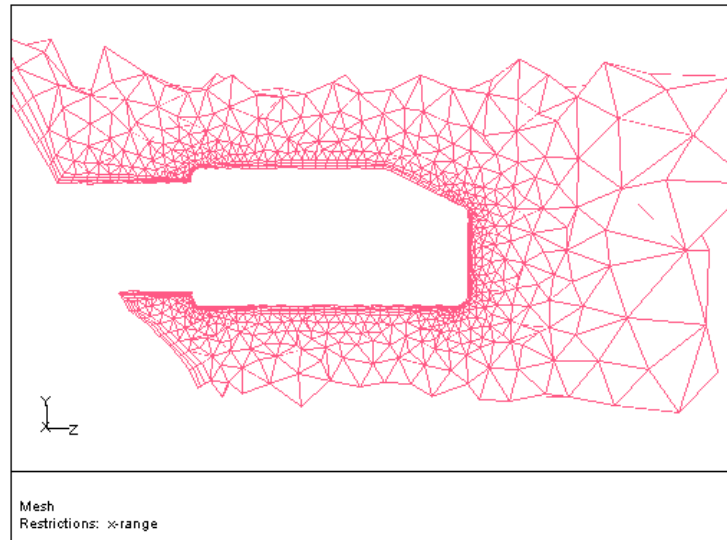

Figure 8.10: Remeshed Cavity
- v. Click Display (Figure 8.10).
In Figure 8.10, you can see the three prism layers generated around the mirror and car. The rest of the domain is filled with tetrahedra.
In Figure 8.10, you can see that the mesh outside the cavity has not been modified. The mesh inside the cavity is connected in a conformal manner with the original mesh.